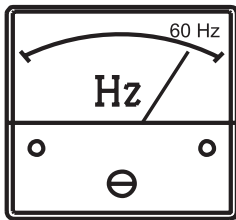

Figure 31. Frequency Meter
6. The **frequency meter** (Figure 31) will display the 60-cycle output frequency in **HERTZ**.